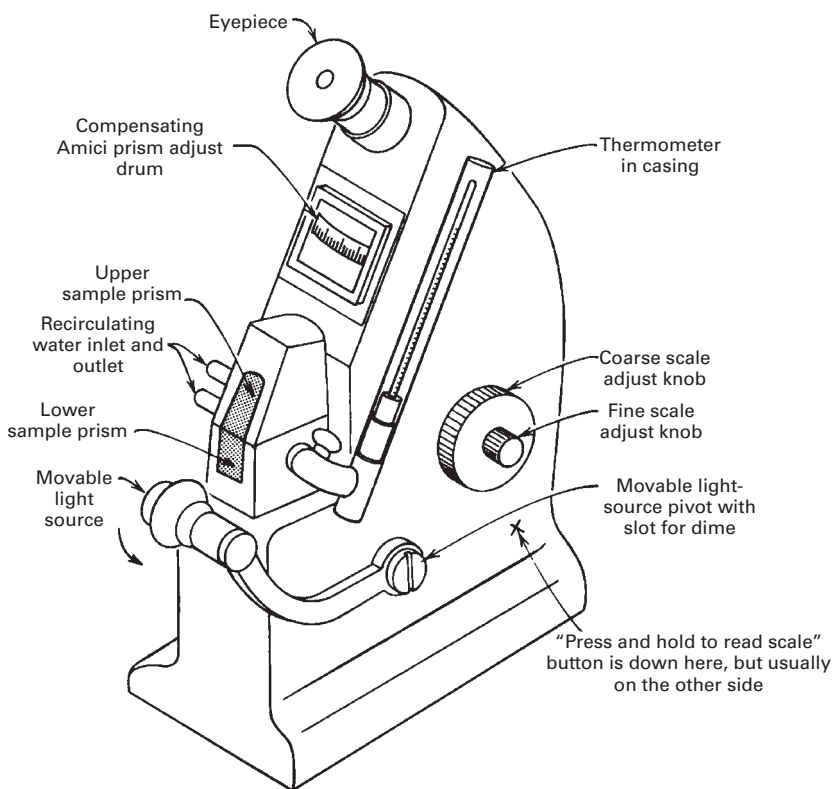

FIGURE 29.2 One model of a refractometer.
2. **A compensating prism adjust drum.** Since the Abbé refractometer (Fig. 29.2) uses white light and not light of one wavelength (the sodium D line), the white